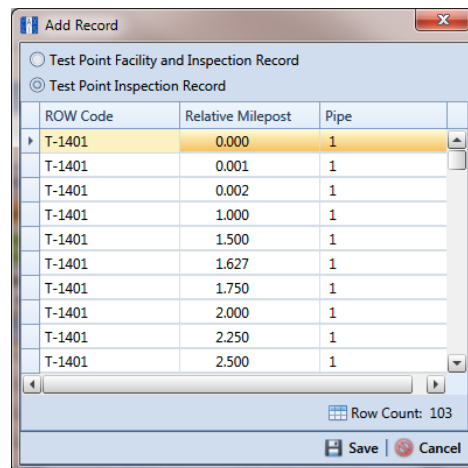

Figure 7-13. Add Record
- 5 Click **+** **Add** to open the *Add Record* dialog box (Figure 7-13, page 225). Then continue with one of the following steps:
- b Select a pipeline with the facility you want to add an inspection record. For example, pipeline *T-1401* and the facility at *Relative Milepost 0.000* are selected in the next figure (Figure 7-13, page 225).